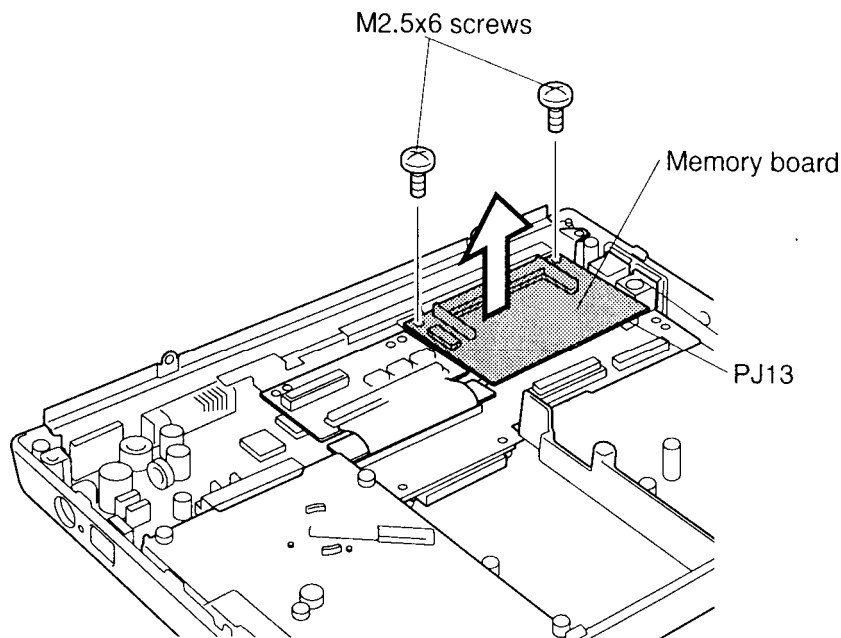

Figure 4-27 Removing the memory board
To remove the T2450CT's memory board, follow the steps below and refer to figure 4-27.
3. Remove **two M2.5x6 screws** on the **memory board** (figure 4-27).
4. Disconnect the **memory board connector (PJ202)** from **PJ13** on the lower system board (figure 4-27).
1. Place the **memory board** in the computer, and connect the **memory board connector (PJ202)** to **PJ13** on the lower system board (figure 4-27).
2. Secure **two M2.5x6 screws** on the memory board (figure 4-27).
4. Lift the right side of the system board which will release the **DC IN jack** from the bottom cover, then lift up the system board with its cover (figure 4-27).